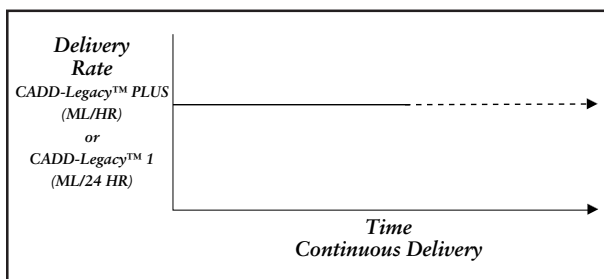

Figure 2. Continuous mode delivery profile.
The CADD-Legacy™ PLUS pump may be programmed to deliver in one of two modes: (1) Continuous, (2) Intermittent . (See figures 2 and 3.)
The CADD-Legacy™ 1 pump operates in continuous mode. (See figure 2.)